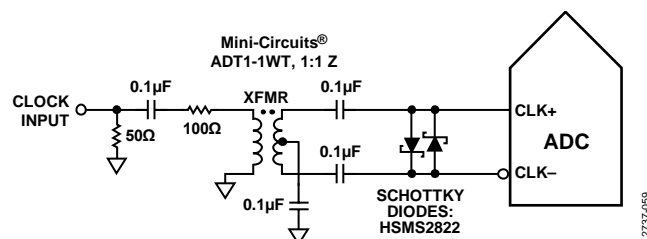
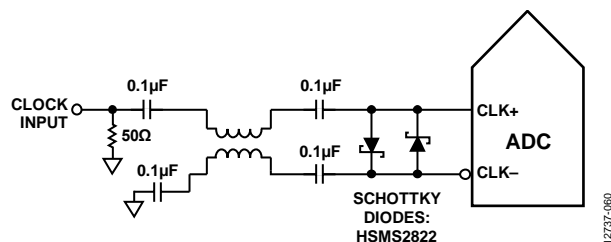

Figure 55. Transformer Coupled Differential Clock (Up to 200 MHz)
Figure 56. Balun-Coupled Differential Clock (Up to 1 GHz)
Figure 55 and Figure 56 show two preferred methods for clocking the AD9655 at clock rates up to 1 GHz prior to the internal clock divider. A low jitter clock source is converted from a single-ended signal to a differential signal using either a radio frequency (RF) transformer or an RF balun.